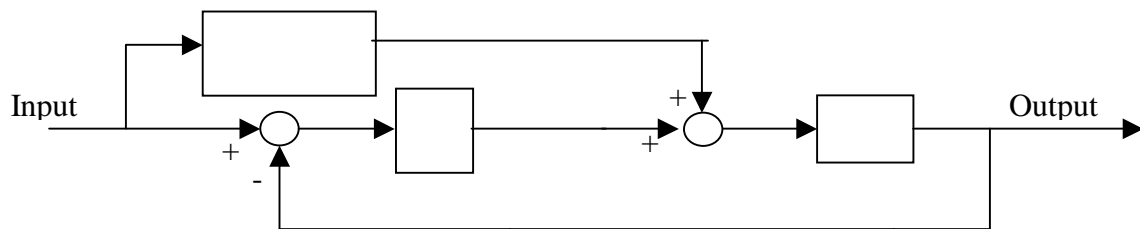

Fig. 2 Feed Forward K-Controller
Using the configuration shown in Fig. 2, and the transfer function for the feed-forward is shown in (1)